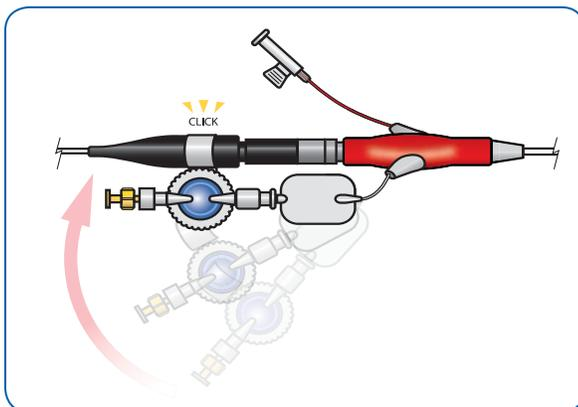

Figure 5.6 Snapping Plastic Clip to Connector Cable (Impella CP® shown)
7. Snap the plastic clip (located on the pressure reservoir of the clear sidearm) to the connector cable as shown in Figure 5.6.